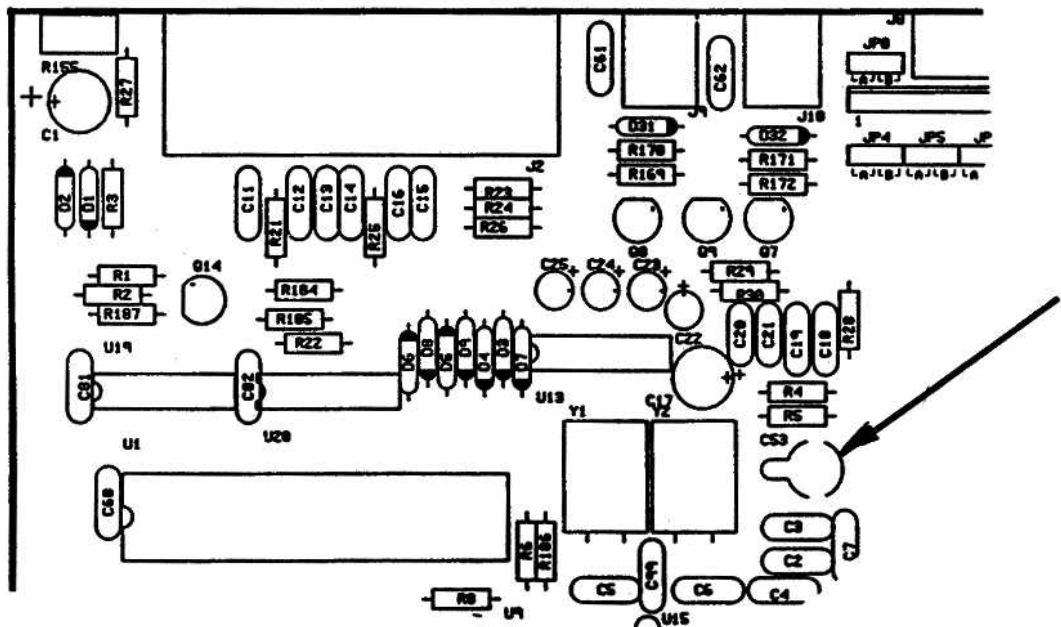

Figure 2: PK-232 circuit board layout showing the location of capacitor C53
Step 3: With the help of Figure 2 below, locate the variable capacitor C53 in the left-rear quadrant of the PK-232 circuit board. It is located immediately to the right of Q1 and Q2.